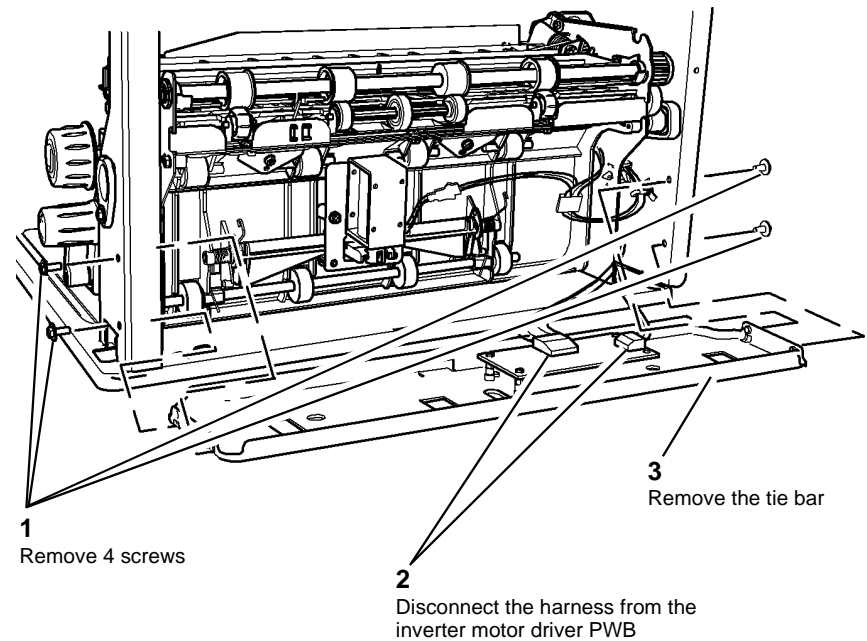

Figure 1 Remove the tie bar
3. Remove the tie bar, Figure 1.